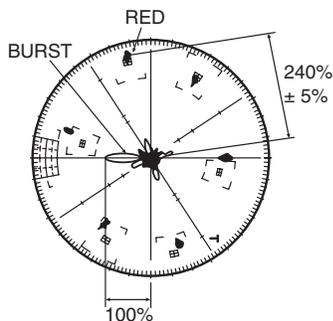

Fig. 6-5-1 Chroma Gain (For VK-S274R)
### 6-5-3 Chroma gain adjustment (Figs. 6-5-1, 6-5-2, 6-5-3)
- 3) When using a vectorscope (Figs. 6-5-1, 6-5-2):